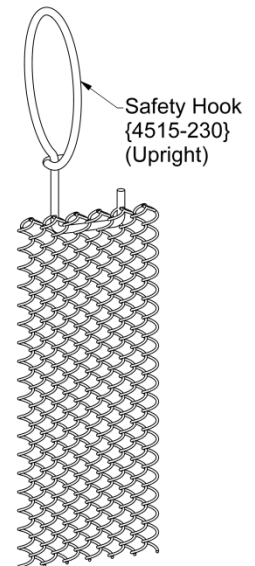

Figure 10
- Step 5:** Return the Hook to its upright position as shown in Figure 10.